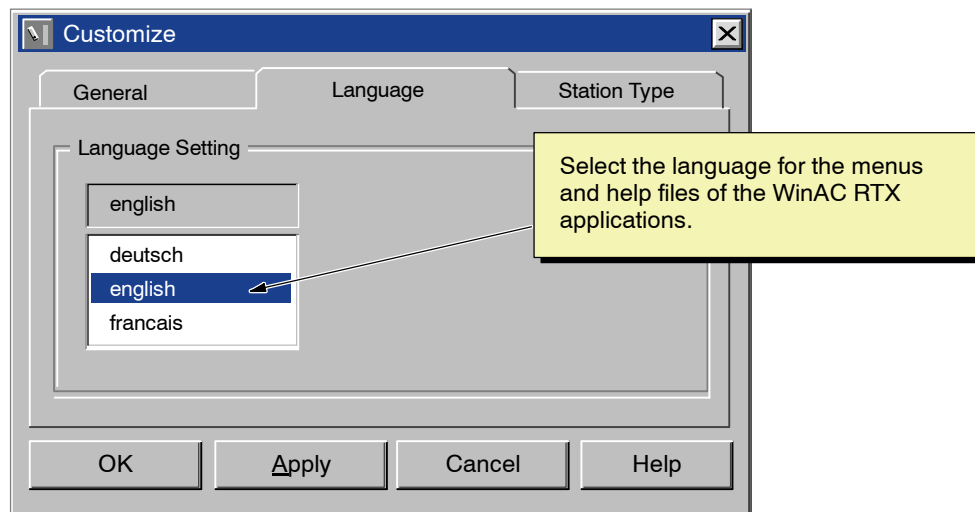

Figure 4-17 Selecting the Language for the WinLC RTX Control Panel and Help Files
3. Select the language for WinAC RTX applications (German, English, or French). See Figure 4-17.